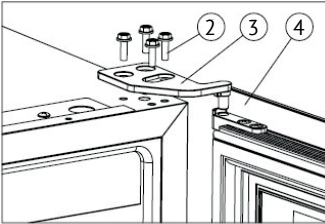

Figure 1
➔ Unscrew the M5\*16 screws (2), dismantle the right upper hinge (3), and remove the door (Figure 1).